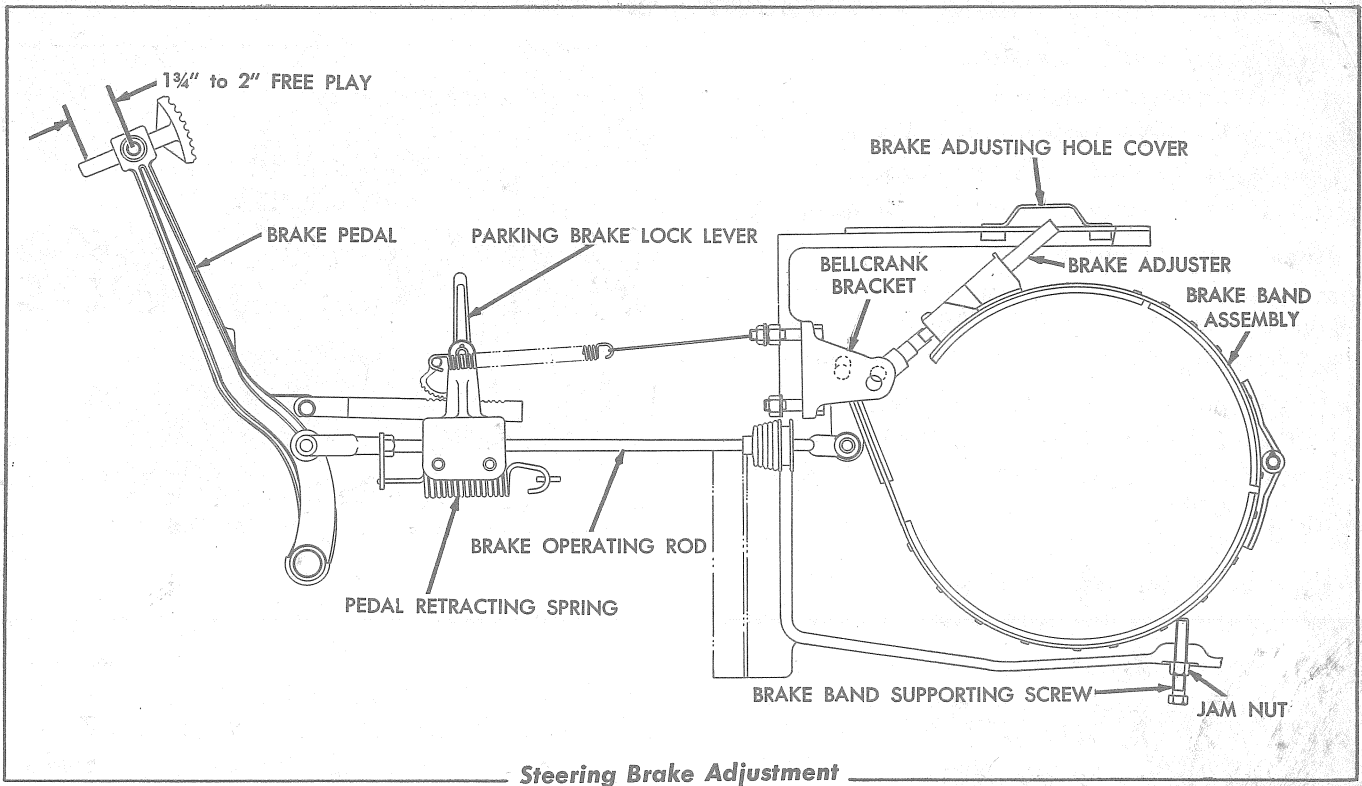

FIG. 54
2. Turn the brake adjuster (Fig. 54) clockwise until the brake pedal has $1\frac{3}{4}$ " to 2" free travel. **NOTE:** When adjusting the brakes, it is necessary to turn the brake adjuster in $\frac{1}{2}$ turn increments so that the lobes on the adjuster will center in the grooves of the spring loaded locking block.
3. With the brake pedal free (pedal all the way back), loosen the jam nut on the brake band supporting screw (Fig. 54). Turn the screw into the housing until the bottom of the brake band is against the brake drum, then back the supporting screw out $\frac{1}{2}$ turn to allow clearance between the brake band and the drum. Tighten the jam nut on the supporting screw.